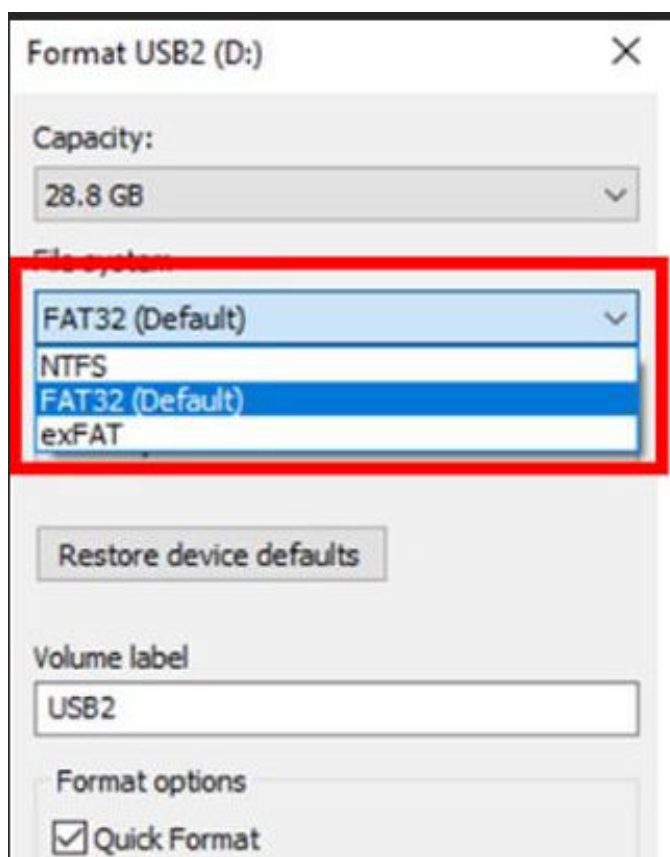

Fig. 1
7. Choose the "NTFS" or "FAT32" option, according to Fig. 1.